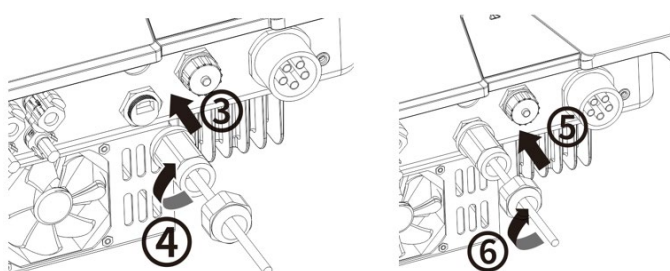

Fig. 32. Connect the network cable
3. Plug the network cable into the corresponding communication port of the device (see Fig. 32, observe sequence and arrow directions), tighten the thread sleeve, then tighten the forcing nut at the end.